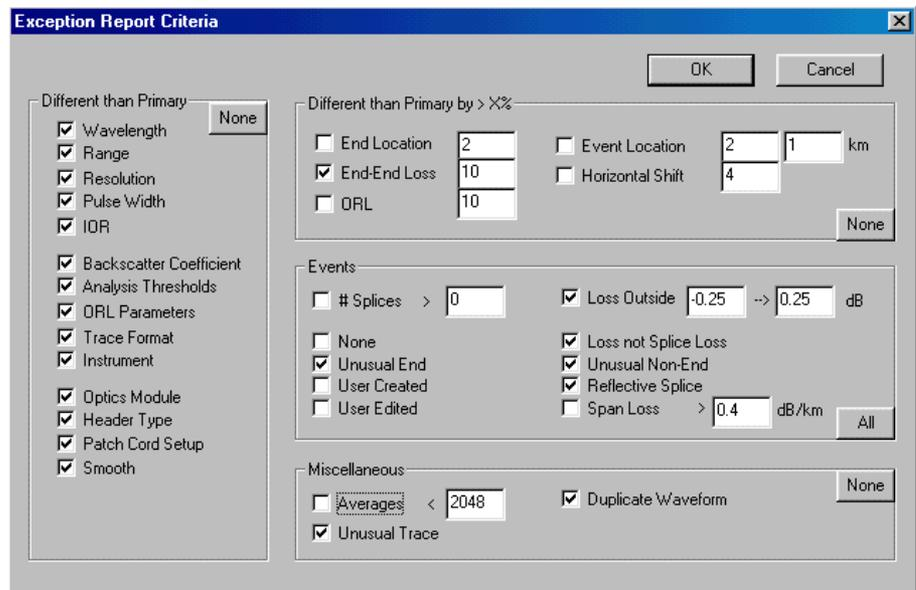

Figure 11-7: Exception Report Criteria Dialog Box
6. Set up the Exception Report Criteria dialog box as shown in Figure 11-7.